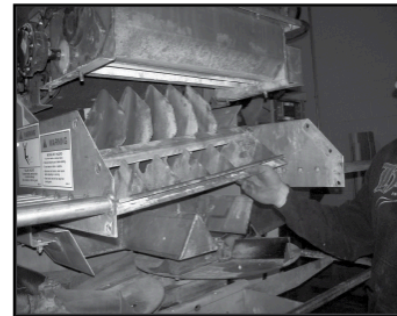

Figure 13
3. Figure 13 - Slide Lower Divider between bottom of MULTIBIN and Spinner Divider as shown.